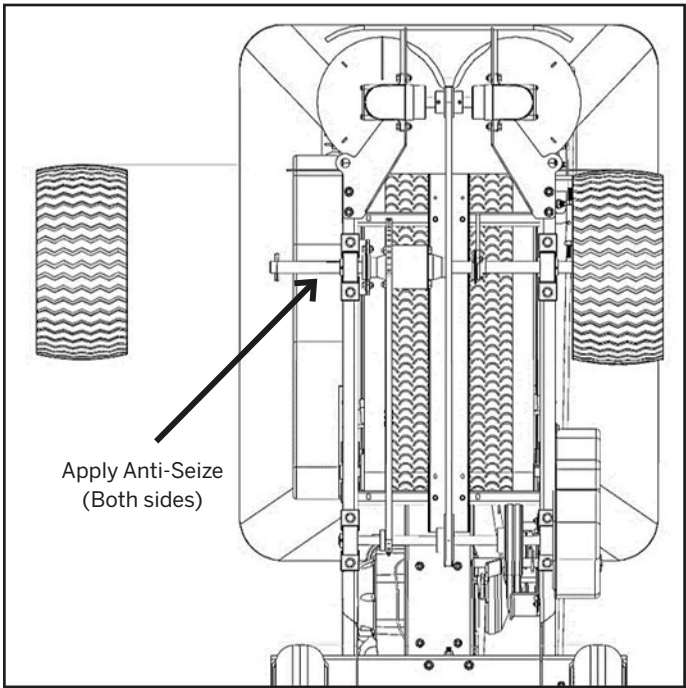

Figure 11.3
- (See Figure 11.3 for axle details.)